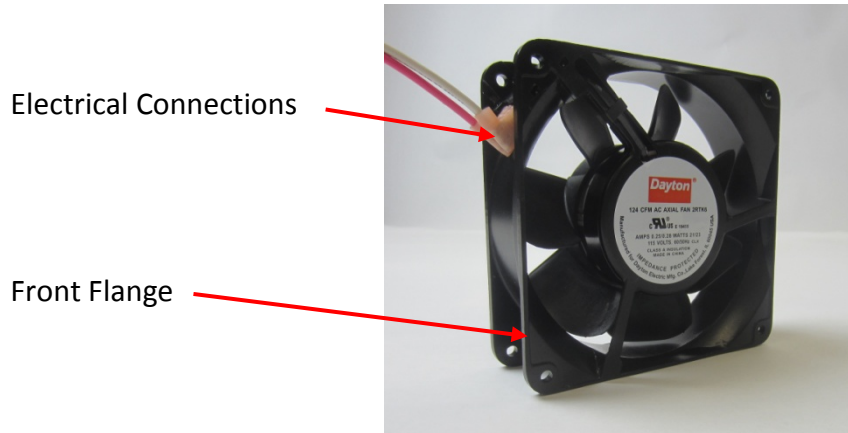

Figure 6-31-2
4. Unplug the electrical connections at the top left corner of the fan (Refer to Figure 6-31-2).